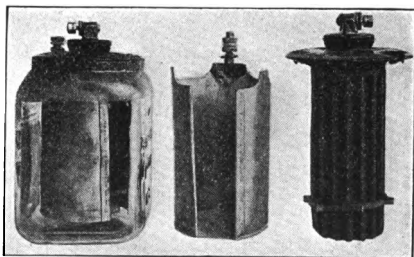

FIG. 189.—SAL-AMMONIAC WET CELL.
**216. Types of Cells.** The commonest forms of cells in use are the wet sal-ammoniac cell, and the so-called “dry” cell. In the former (Fig. 189) the solution consists of sal-ammoniac (ammonium chloride) dissolved in water, the electrodes being zinc for the (—) and carbon for the (+). In every case the source of the electrical energy is the action of the solution on the electrodes. One is affected more than the other and gradually wastes away. In time it must be replaced.